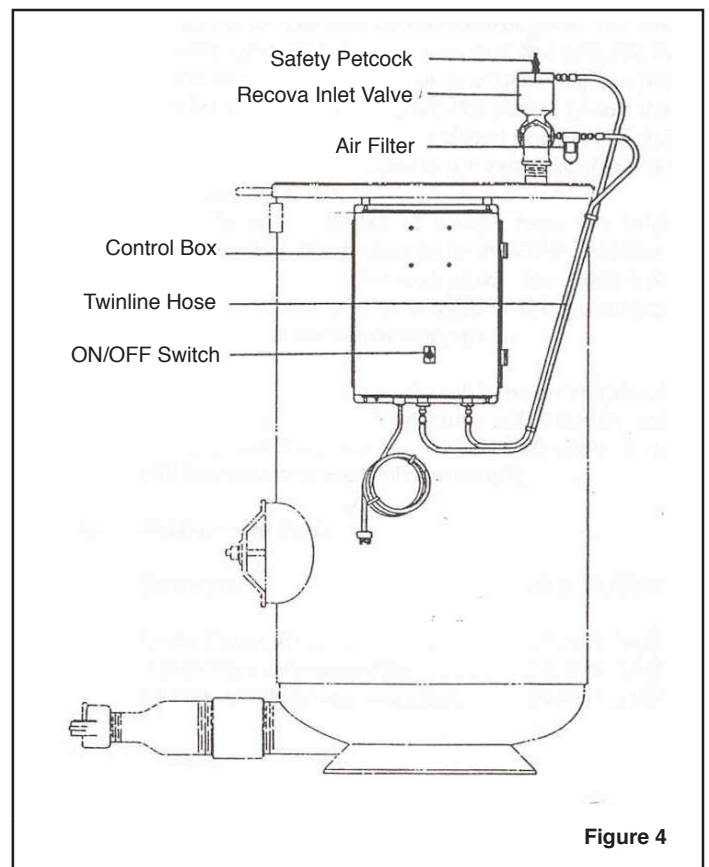

Figure 4
5.2 Electric Cycle Timer (Figure 4)